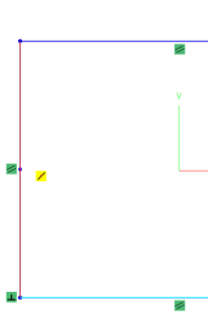

Figure 119
- Move the cursor over the middle of the left line, and LMB click at the **Mid-Point** Constraint to start the Centerline (**Figure 119**).